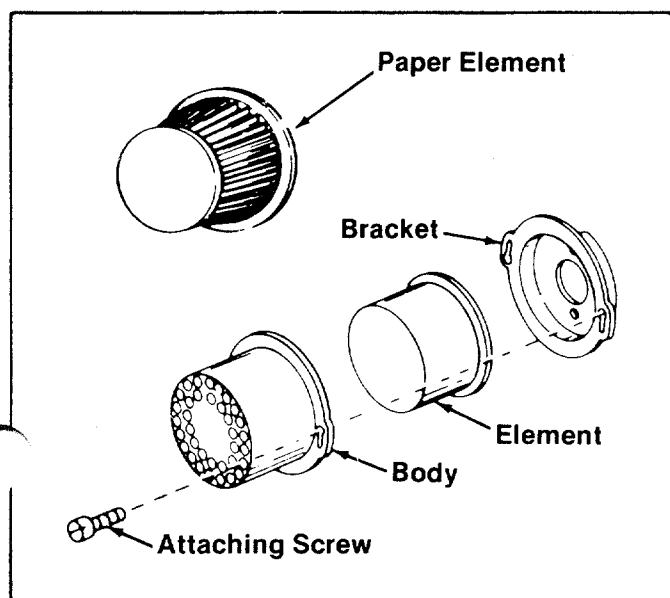

FIGURE 28
- Air Cleaner. (See figure 28).